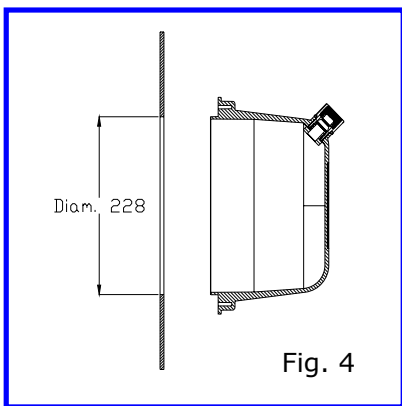

Fig. 4
- Make a circular hole with a diameter of 228 mm for the niche (item no. 5) in the panel (Fig. 4)